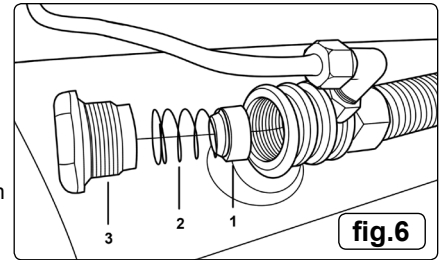

fig.6
- 4.3.5. Stop the compressor by pushing the switch knob (see fig.3.1) downwards. The compressed air inside the compressor head will flow out via valve (fig.6), making the restart easier and preventing the motor from being damaged. **DO NOT**, other than in an emergency, stop the compressor by switching off the mains power, or by pulling the plug out, as the pressure relief will not then occur and motor damage may result upon restart. When the compressor runs correctly and is stopped correctly there will be:
"...compressed air inside the compressor head will flow out via valve (fig.6), making the restart easier..."